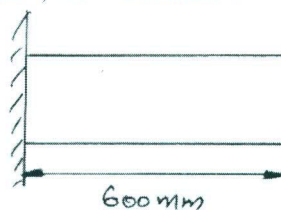

Fig.Q10(b)
b. Determine the natural frequency of longitudinal vibration of the bar shown in Fig.Q10(b). Take $E = 200 \text{ GPa}$; $\rho = 7840 \text{ kg/m}^3$; $A = 240 \text{ mm}^2$. (10 Marks)